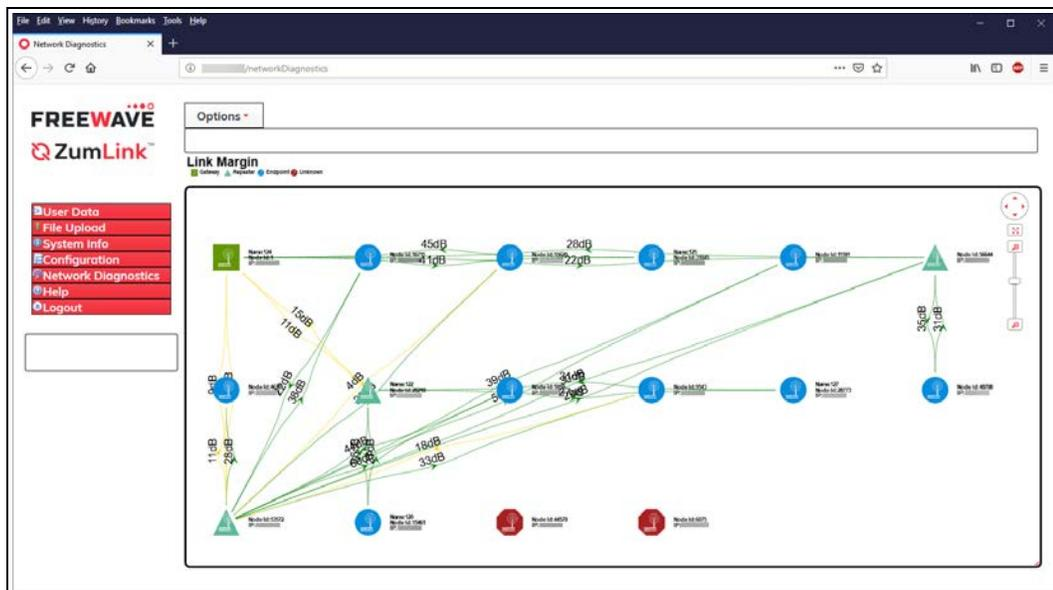

Figure 197: Network Diagnostics window - Grid
- Click the **Options** list box arrow and select the **Grid** option to show the **Grid** connections in the **Network Diagram**. Figure 197